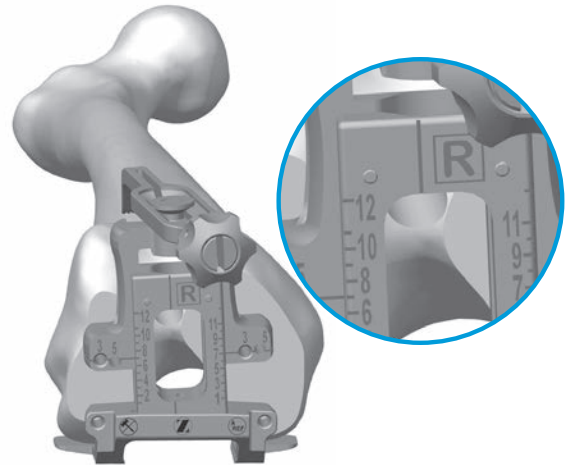
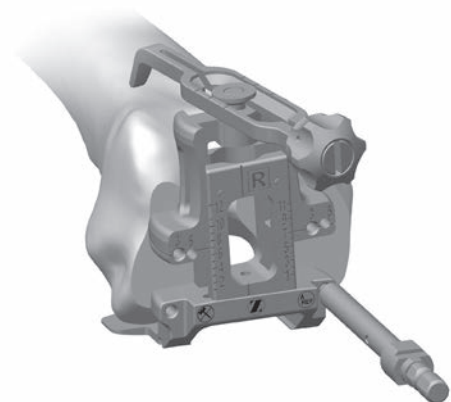

Fig. 37
Fig. 38
- If the 3° external rotation holes are to be used to set external rotation, the etched line on the sizer should be positioned so it is in line with Whiteside’s line (Fig. 37) to optimize the M/L position of the drill holes for subsequent 4-in-1 Cut Guide placement. If the 5° external rotation holes are to be used, the sizer can be positioned with the etched line on the sizer 4mm laterally from Whiteside’s line to better center the drill holes for subsequent 4-in-1 cut guide placement, due to the M/L offset of the holes. Hold the guide in place and if necessary, secure the sizer to the femur using 25mm x 3.2mm (2.5mm female hex) screws (Fig. 38) in one or both of the holes on the lower portion of the guide to help draw the sizer adjacent to the distal femur, particularly in MIS situations.